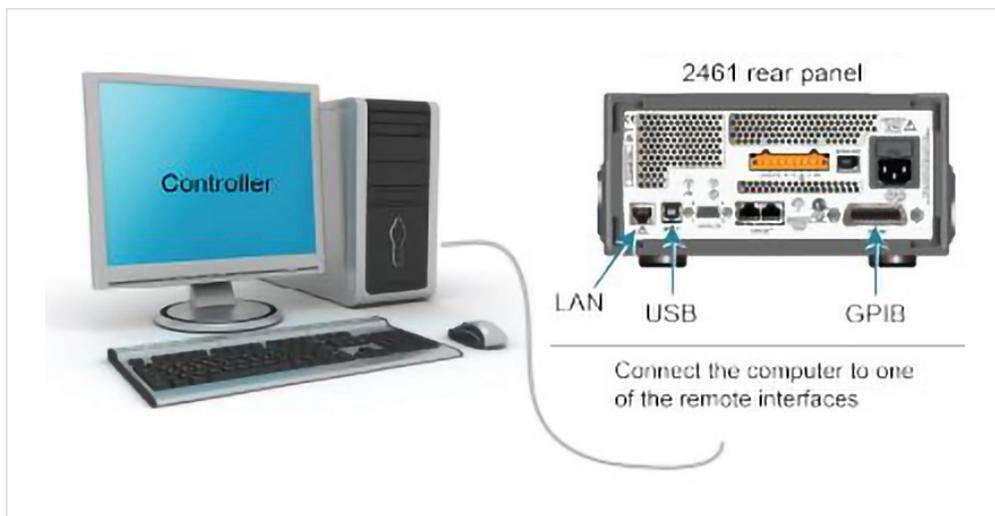

Figure 4: 2461 remote interface connections.
**Figure 4** shows the rear-panel connection locations for the remote communication interfaces.